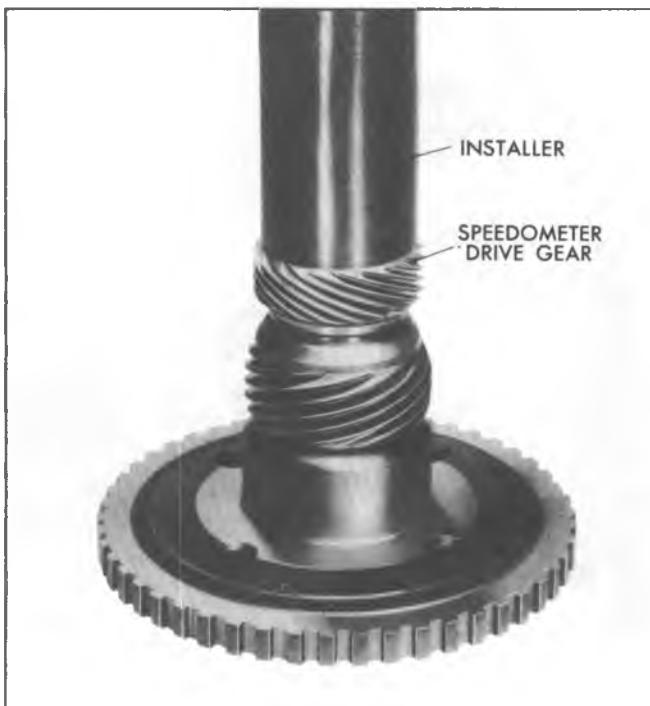

Fig. 7A-56C--Installing Steel Speedometer Drive Gear
2. Install new steel speedometer drive gear and drive to location (5-43/64") below end of output shaft for all models except CA, CG and CR) (11-15/64" below end of output shaft for model CA) (11-29/64 below end of output shaft for models CG and CR) using J-5590 (Fig. 7A-56C).